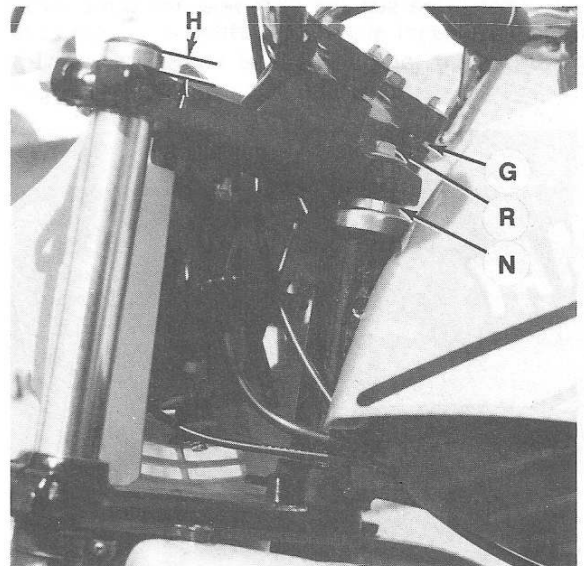

Fig. Y6-18—On 200 cc models, the inner fork tube end should protrude (H) 10 mm (0.4 in.) above bracket.
seated in groove. Position the fork legs in the brackets so the top of the fork tube (not the cap) is flush with the upper bracket on 225 cc models or 10 mm (0.4 in.) above the bracket on 200 cc models. See Fig. Y6-18.
The handlebar retaining clamps are constructed so that when properly installed there is a gap at the rear of the clamp. See Fig. Y6-18. Tighten clamp screws to 20 N·m (14 ft.-lbs.).
Adjust steering as follows: Loosen the upper fork leg clamp screws and the steering stem retaining screw (R—Fig. Y6-18). Rotate slotted steering stem nut (N) to remove steering play (tighten nut) or remove binding (loosen nut). Do not overtighten nut as binding will occur and bearings may be damaged. Do not loosen nut excessively as bearing balls may fall out. Tighten steering stem retaining screw (R) to 90 N·m (65 ft.-lbs.). Recheck steering play.
If suitable tools are available, the bearing races on the steering stem and in the steering head may be removed and installed. Be sure to inspect and install grease seals. Check the steering stem for straightness. Note that there are 22 bearing balls of ¼ inch diameter located at the top of the steering stem and 19 bearing balls of ⅜ inch diameter used at the lower end of the steering stem. Use a good quality grease to lubricate the bearing balls and to hold them in place during installation. Reassemble components by reversing the removal procedure. Tighten the steering stem nut (N—Fig. Y6-18) to 38 N·m (27 ft.-lbs.). Tighten the steering stem retaining screw to 90 N·m (65 ft.-lbs.).